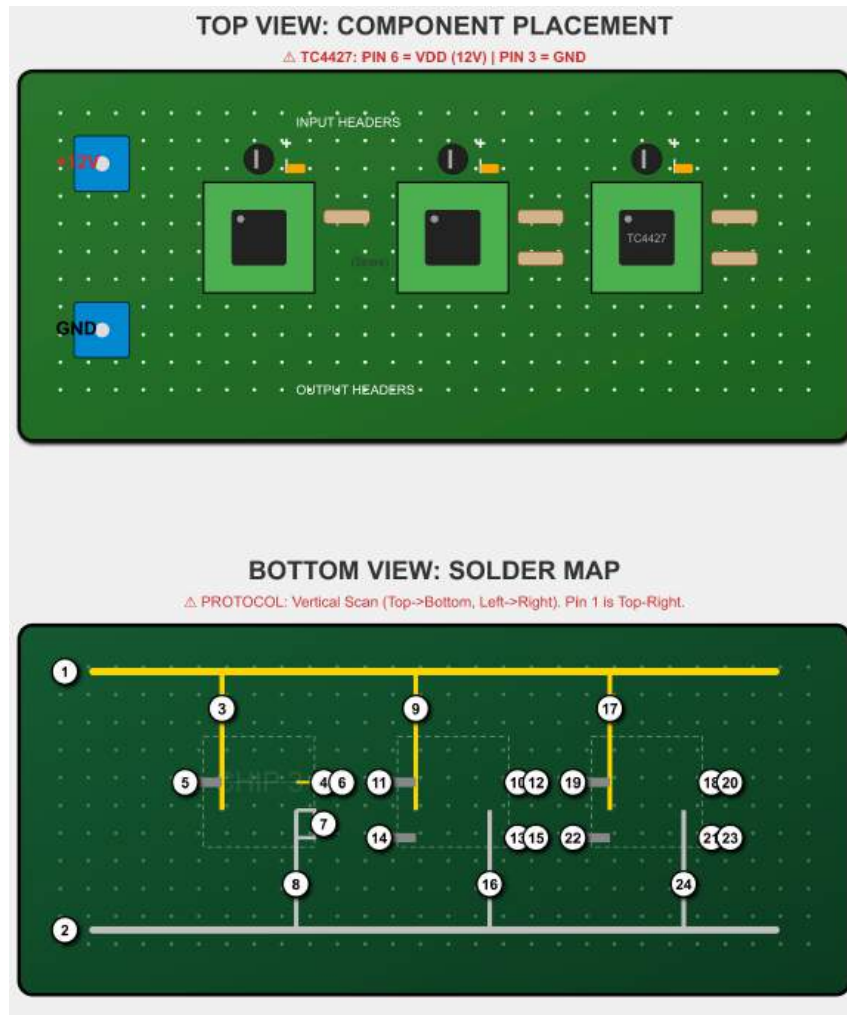

Figure 9-2c: N-FET Gate Driver Perfboard Layout (3x7 cm)
Standard: IPC Class 2 Reliability **Objective:** Build a high-speed, high-current driver board capable of surviving vibration and thermal stress. **Reference Artifact:** Figure 9-2c (Double-View Solder Map)
- **Orientation Rule:** The **Dot** on the TC4427 chip marks **Pin 1**. All pin numbers in this guide assume the chip is oriented exactly as shown in **Figure 9-2c (Top View)**.